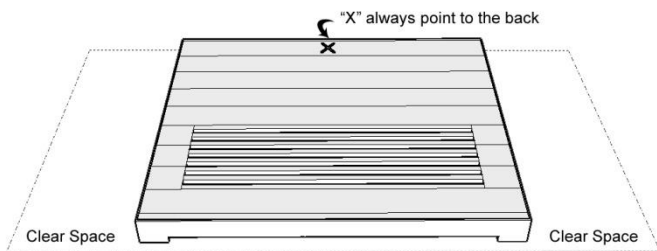

Figure A-1: Floor Panel
**Floor Panel** Place the floor panel flat on the desired location. Make sure to leave a space around the side walls for one person to stand and install the side panels (Figure A-1). 2 or more people should then slide the sauna once it's complete next to a wall.